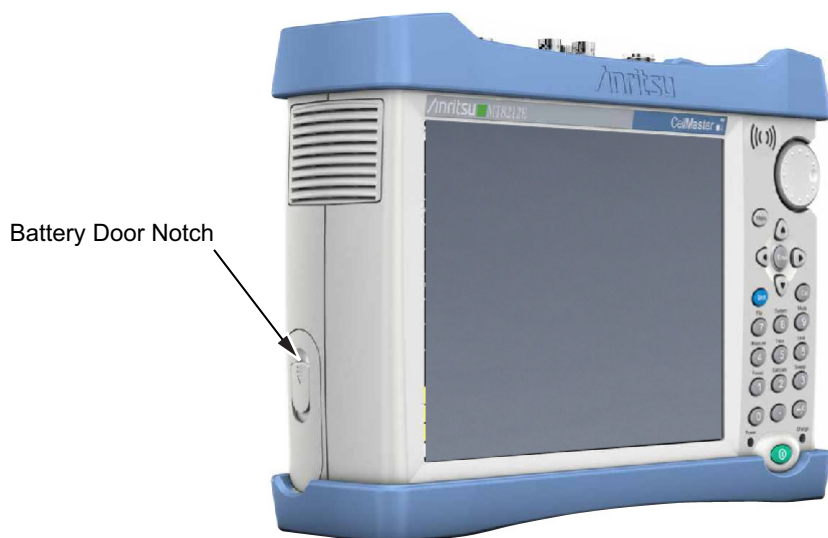

Figure 6-2. Battery Access Door Notch
2. Place a finger in the battery access door notch and push the door latch down towards the bottom of the instrument, as illustrated in Figure 6-2.